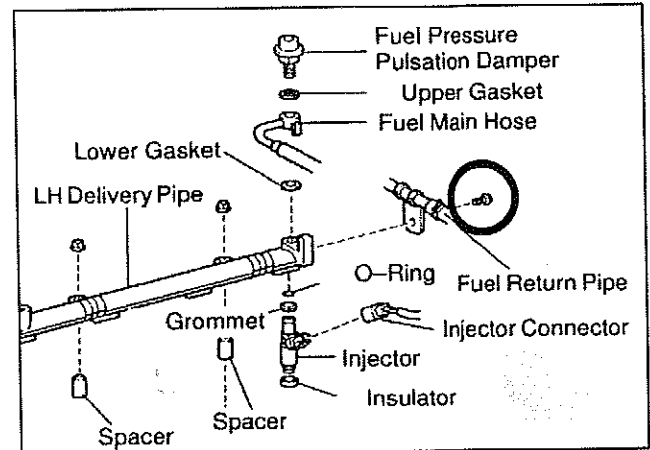

Figure 28
12. Install the factory driver's-side fuel delivery pipe spacers (Figure 28).
15. Attach the steel mounting clamp and secure the TRD fuel return pipe to the rear of the driver's-side fuel delivery pipe (Figure 28). Torque the factory bolt to 7.5 N-m (66in.-lbf).
16. Connect the factory fuel return pipe to the TRD fuel return pipe (Figure 28).